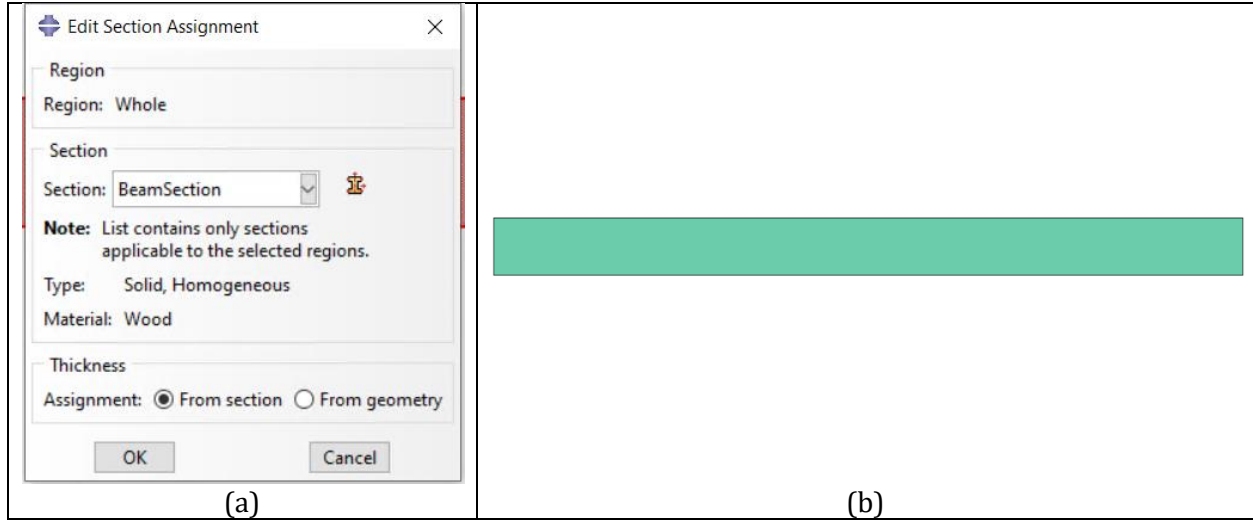

Figure 2-12 – (a) The Edit Section Assignment dialog box and (b) the part after a section is assigned.
- b. Set the **Plane stress/strain thickness** to **100**. See Figure 2-12(b).
The **Edit Section Assignment** dialog box appears, as shown in Figure 2-12(a).
Abaqus/CAE colors the beam green to indicate that the section has been assigned, as shown in Figure 2-12(b).